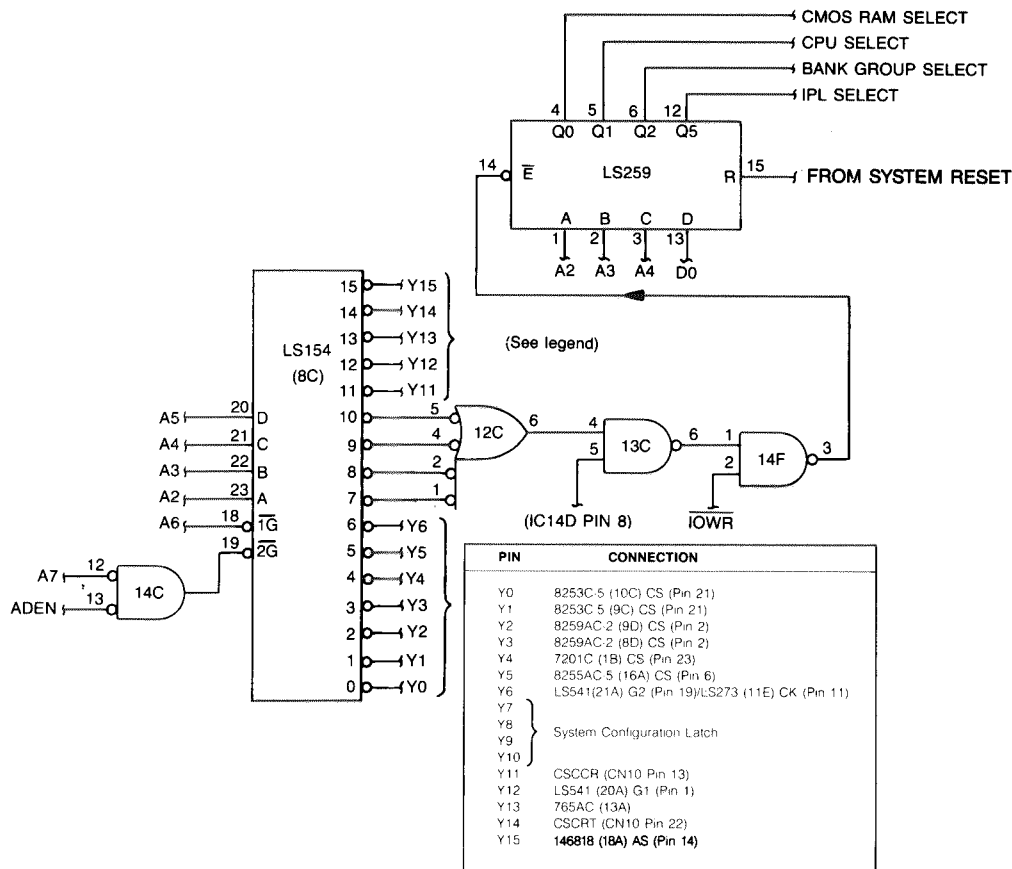

FIGURE 2-47. I/O ADDRESS DECODER AND SYSTEM CONFIGURATION LATCH
2.3.3.3 I/O Address Decoder (Figure 2-47)
The LS259 system configuration latch (IC 15F) is used to establish the signal conditions which enable the Z-80A or 8088 CPU and associated memory devices. The bit-addressable latch, illustrated in Figure 2-47 with the I/O decoder, is addressed as a series of I/O ports (see Table 2-21). At power-on the chip is reset by the system reset pulse to select the Z-80A, IPL, and banks 0-3 of DRAM.